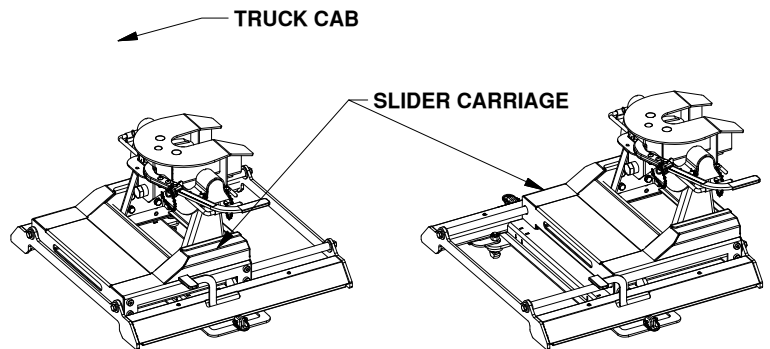

Figure H3: View of Slider Base with the Carriage in a forward position. TOWING POSITION
**NOTE:** Access to all four castle nuts requires that the slider carriage be moved between the towing and maneuvering positions. See Figures H3 and H4 on page five for instructions on moving the carriage.
## Moving from towing position to maneuvering position. (Figure H3 to H4)